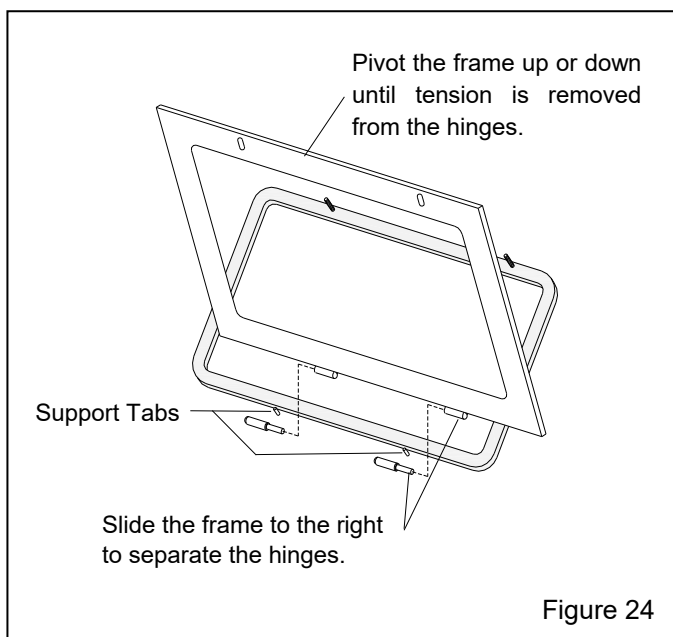

Figure 24
7.6 Window-Frame Removal – Figure 24
7.6.4 To remove, slide the frame to the right. The hinges separate, as shown in Figure 24.